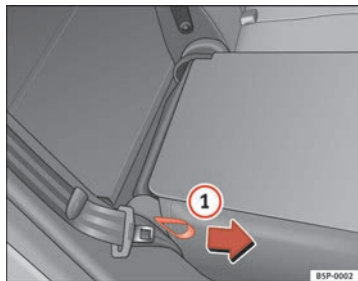

Fig. 99 Folding or opening the rear seat backrests
- Pull the loop on the side of the seat ⇒ fig. 99 ①.